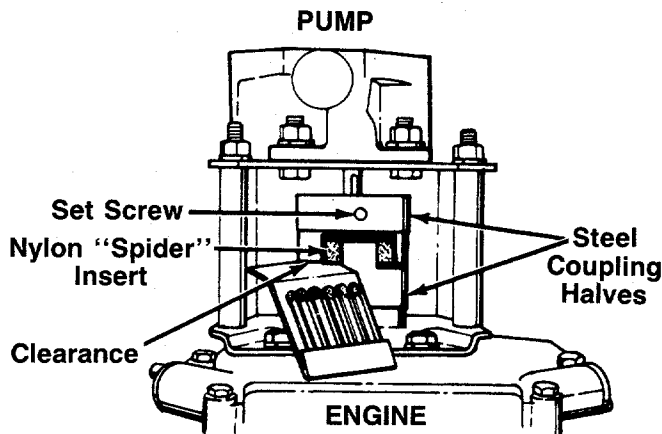

FIGURE 18.—Bottom View
7. Adjust the two coupling halves (steel) so there is between .010" and .060" clearance between the two halves (at least the thickness of a matchbook cover, up to 1/16" maximum). See figure 18. Tighten the set screw in the coupling half on the pump shaft.